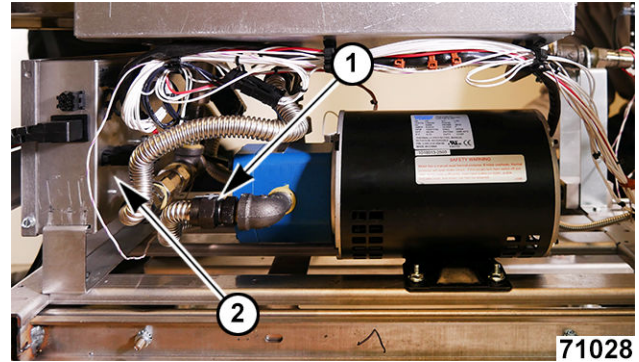

Fig. 53
4. Disconnect flex line left and right side of pump (1, Fig. 53).
5. Document / disconnect motor wiring connector from power supply box (2, Fig. 53).